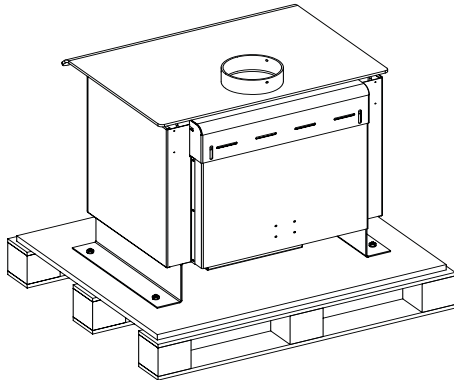

Figure 1
- 2) To begin the leg installation remove the bolts from the hold down brackets from the pallet *only*. This is so you will be able to move the stove to the edge of the pallet and install the legs one at a time. (9/16" wrench or socket.) *Figure 1*